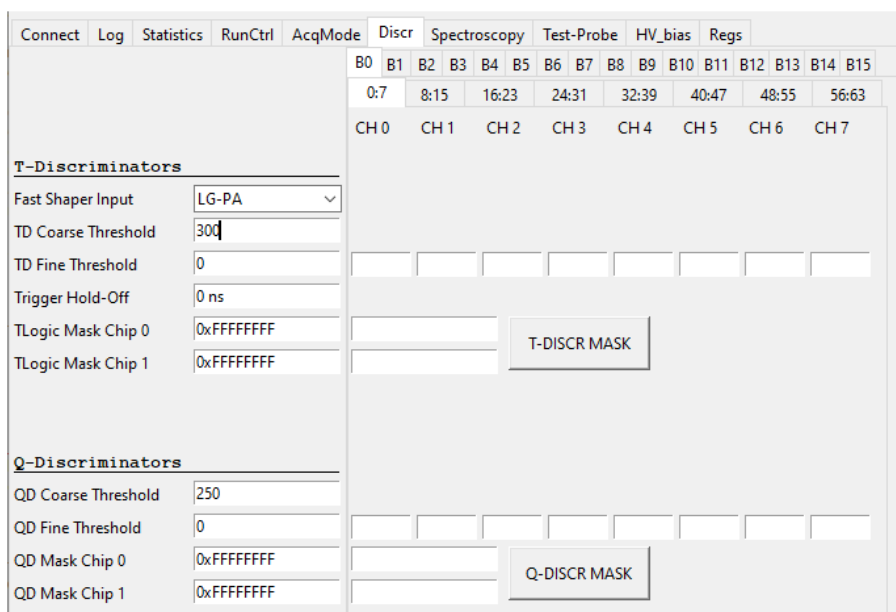

Fig. 10.28: The Discr tab of the Janus GUI.
4. Select the Discr tab (see Fig. 10.28). This tab allows the user to set the values of the channel self-trigger thresholds. For each channel, a hit is saved if the output of the Fast Shaper exceeds a certain threshold in the TD chain. The user should then set for the "TD Coarse Threshold" parameter a proper value for the channel self-trigger thresholds. In this example, a value of 300 was set for the "TD Coarse Threshold" parameter.
5. Select for the "Fast Shaper Input" parameter which Preamplifier signal (HG or LG) has to be fed into the Fast Shaper of each channel. In this example, the "LG-PA" option was selected (see Fig. 10.28).